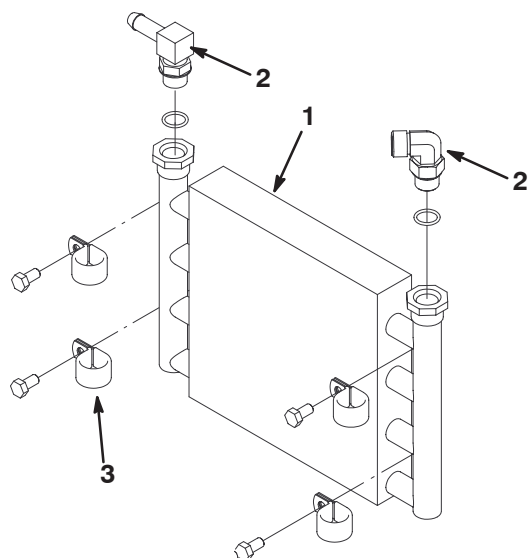

Figure 12
28. Loosely mount the 90° fittings to the cooler. Position the fittings as shown in figure 12. Make sure the O-rings are lubricated and in place.
29. Insert (4) R-clamps onto the cooler tubes positioning as shown in figure 12.